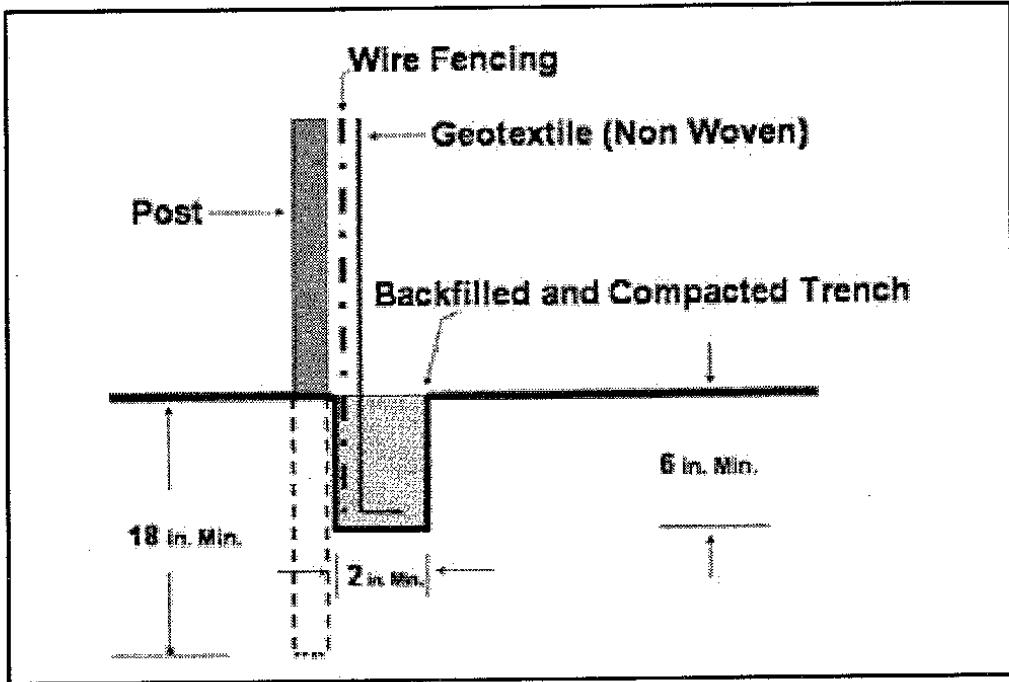

Figure SB-2 Detail of Type A & B Silt Fence Installation
- Backfill the trench with compacted earth (see Figure SB-2).